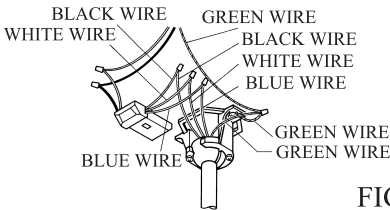

FIG.8
2. Connect the black wire from receiver to the black wire from fan with wire nut .Connect the white wire from receiver to the white wire from fan with wire nut.Connect the blue wire from receiver to the blue wire from fan with wire nut.Connect the green wire from ceiling, and green wire from hanger bracket with green wire from downrod ball with wire nut. (see Fig.8)